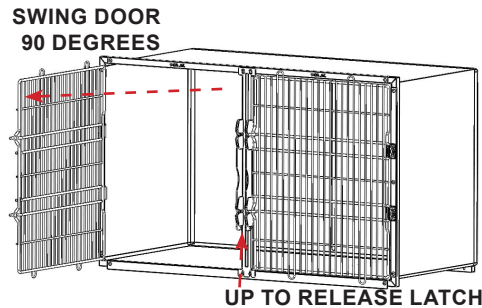

FIGURE 2.3 - Open Door
**STEP 1:** Slide the latch bar up and swing the door to the open position (90° to cage face). See FIGURE 2.3